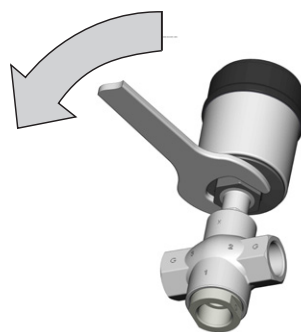

Figure 4: Rotating the actuator
- ▶ Only turn the actuator **in the specified sense of direction** (see “Figure 4”).